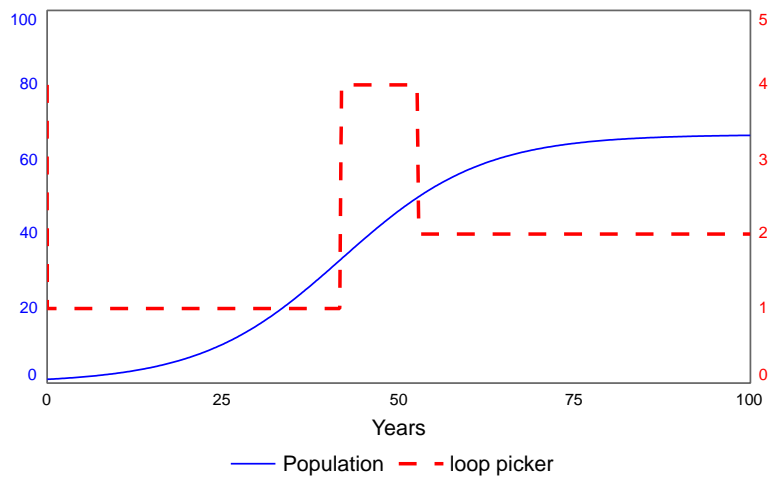

Figure 27: Population and loop picker
- Fix the scale of *loop picker* to something larger than needed, e.g 0 .. 5, to make the graph easier to read, Figure 27